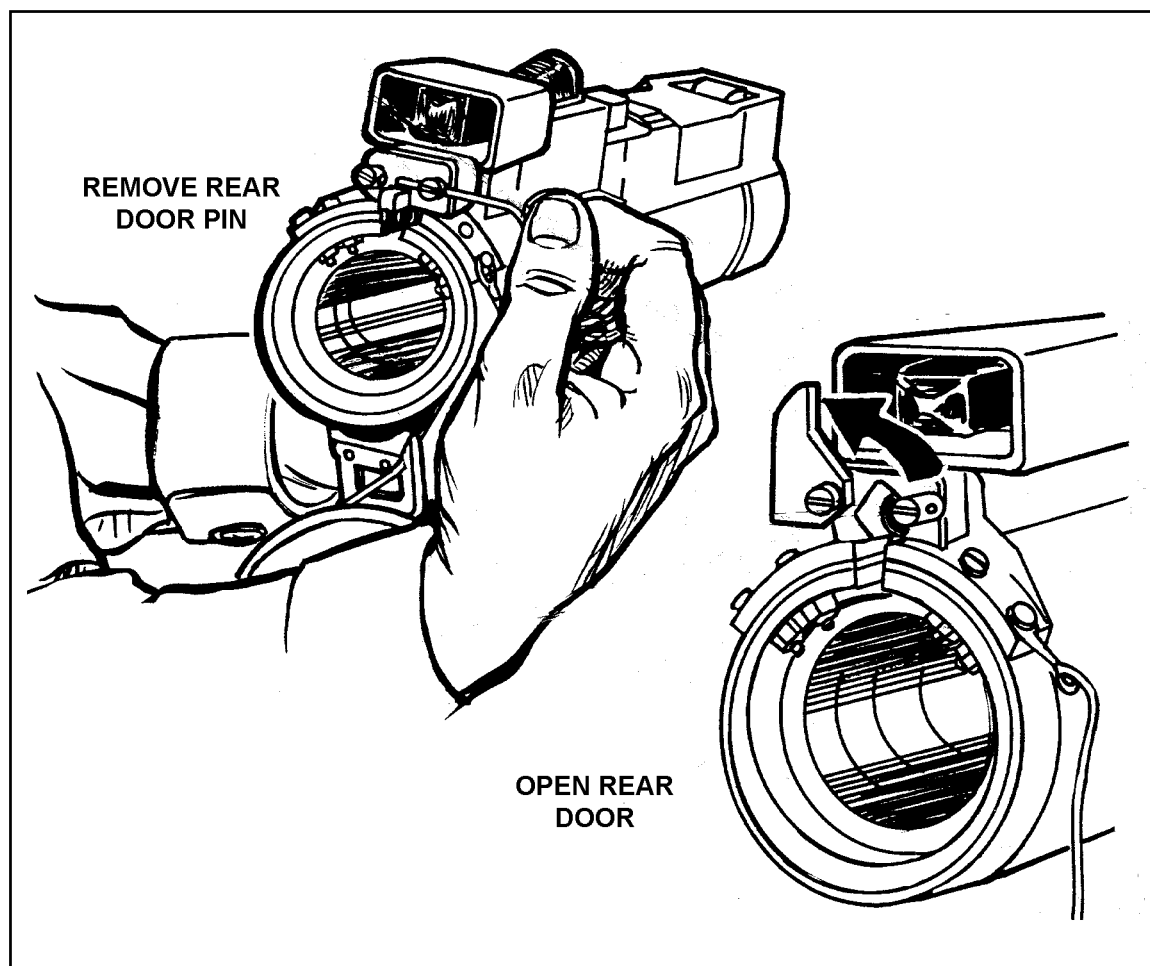

Figure B-3. Loading the LAW subcaliber launcher.
e. **Loading.** To load the M73 rocket into the M190 launcher (Figure B-3)—
- (1) Twist and remove the primer housing lockpin and open the primer housing door.
- (2) Remove the fired primer block (if present) from the primer block cavity of the launcher.
- (3) Inspect the primer block cavity for obstructions such as primer case stuck on the firing pin.
- (4) Pivot and remove the safety clip from the rocket.
- (5) Insert the M73 rocket into the launcher with the primer face up and toward the firing pin housing.
- (6) Guide the primer block into the primer block cavity with the primer toward the front of the launcher. Close the primer housing door, insert the lockpin across the primer housing door, and twist to ensure a spring-tight fit. Ensure the primer housing door fits snugly.